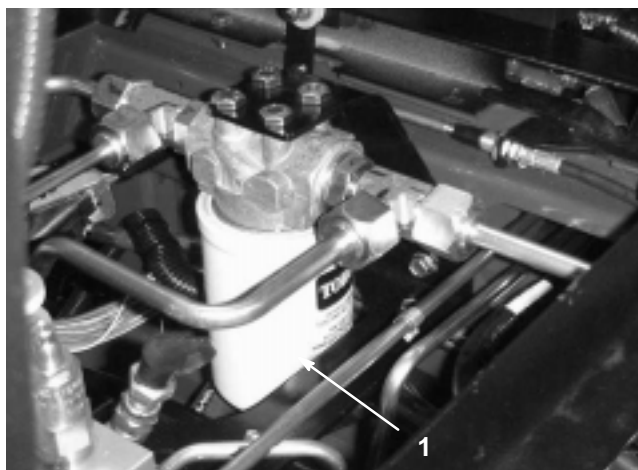

Figure 37
2. Clean the area around the filter mounting area. Place a drain pan under the filter and remove the filter (Fig. 37 & 38).